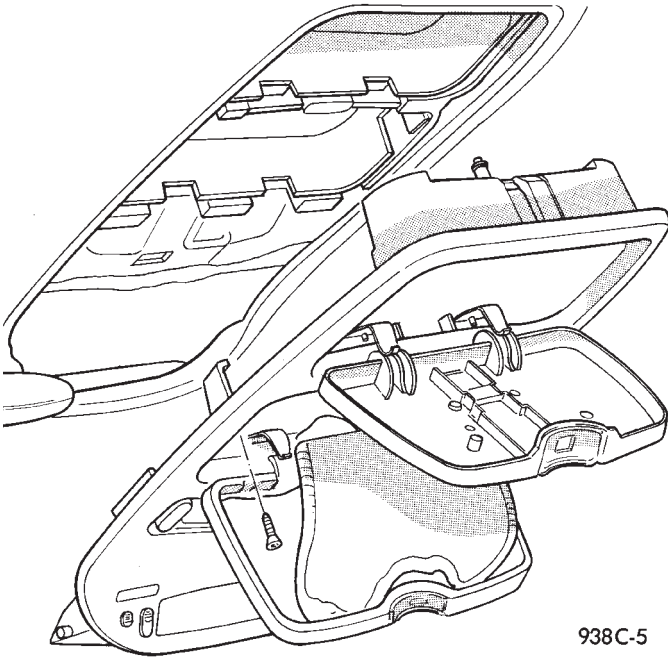

Fig. 7 Full Overhead Console
(1) Open the garage door opener and the sun glass compartments (Fig. 7).
(2) Remove two screws from the eye glasses compartment.
(3) Remove screw from garage door transmitter compartment and remove transmitter, if necessary. Pull gently down at the rear of the console to disconnect the console from mounting bracket